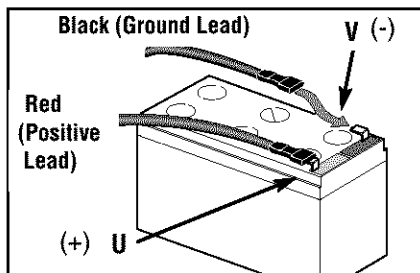
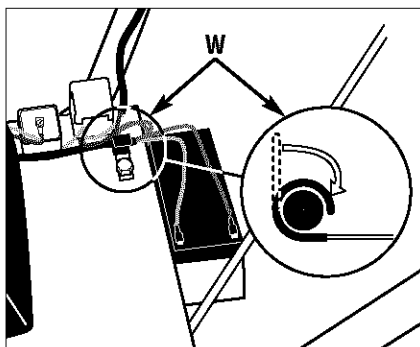

Figure 2-3: Connect wire terminals to battery terminals.
Figure 2-4: Attach wire harness with J-clips.
- Plug terminal on red (positive) wire into red terminal (U, Figure 2-3) on battery.
- Plug terminal on black (negative) wire into black terminal (V).
3. If applicable, attach wire harness to engine deck using J-clips (W, Figure 2-4) as shown. Bend J-clips over to secure.